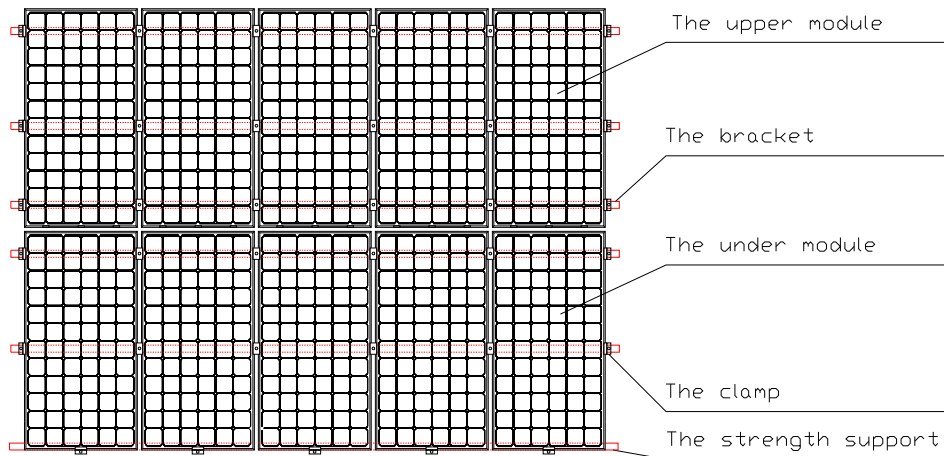

FIG 2 Schematic diagram of reinforcement mounting of module
- ✚ For the roof system installed in the area that ever experienced relatively heavy snowfall or snow cover, the customer shall reinforce the mounting system at the lower frame of the module, in order to prevent the lower frame from being pressed and damaged by the falling snow, and avoid the module damage due to melt snow freezing in daytime. CSUN suggests to selecting the support reinforcing mechanism shown in Figure 2.